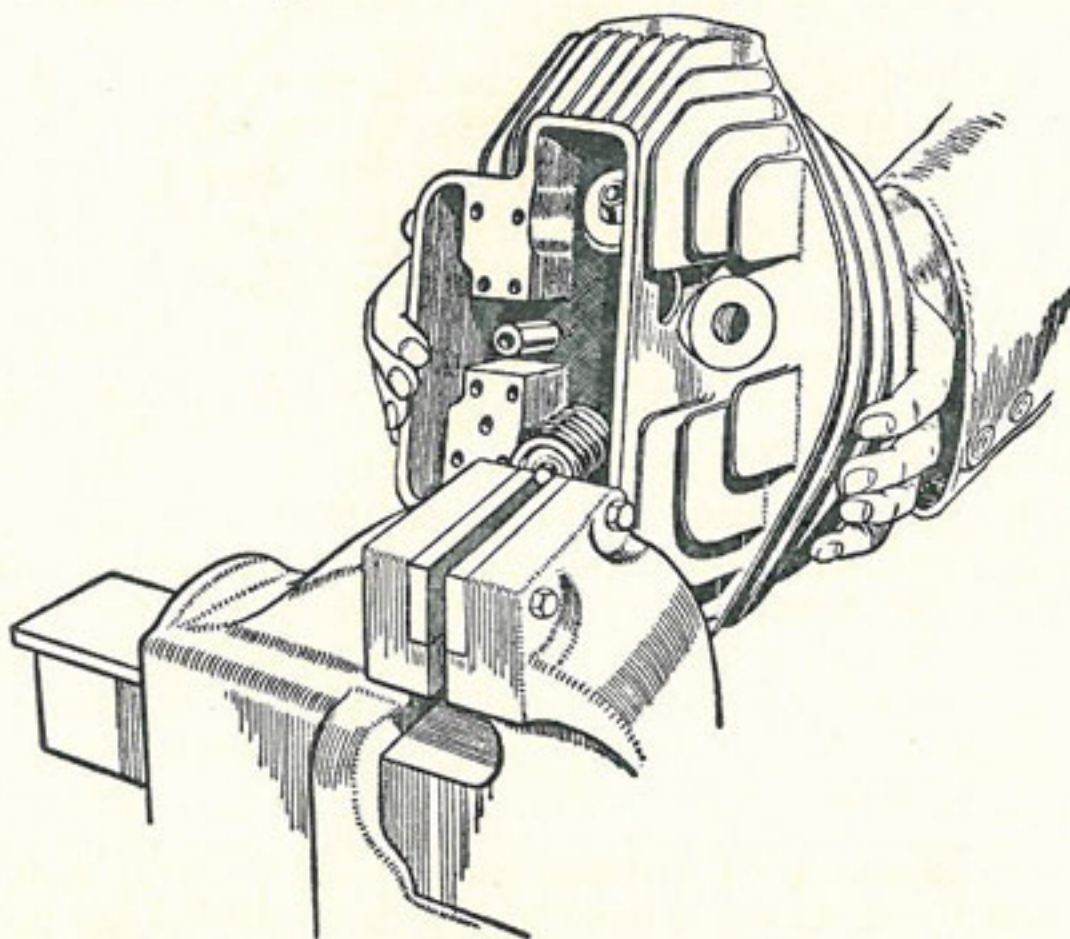
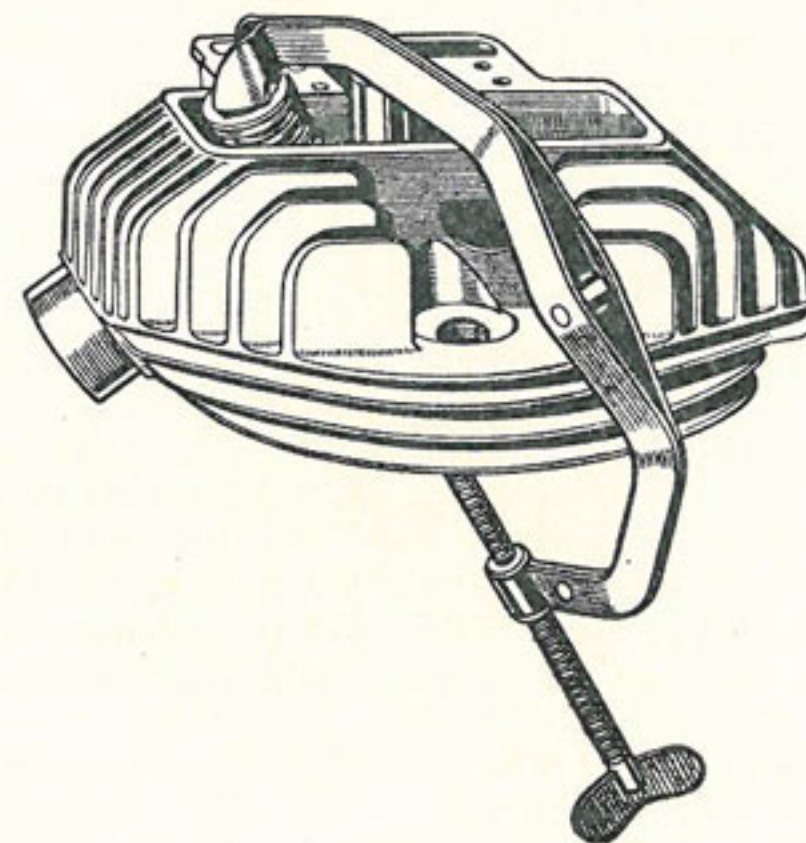

Fig. 7.—Method of Removal of Valve End Caps.
Fig. 8.
22. **Removal of Valves.** To remove the valves from the cylinder head, first lift off the hardened end caps from the valve stems. If these have stuck, they can be removed by compressing the spring slightly and gripping the end cap in a vice (see Fig. 7). Then compress the valve springs with a suitable compressor, lift out the split conical collars and release the springs, when the valve can be withdrawn. Fig. 8 shows a Terry compressor in use. Keep the split conical collars and the top spring collars paired up with their respective valves and replace in the same positions when reassembling.